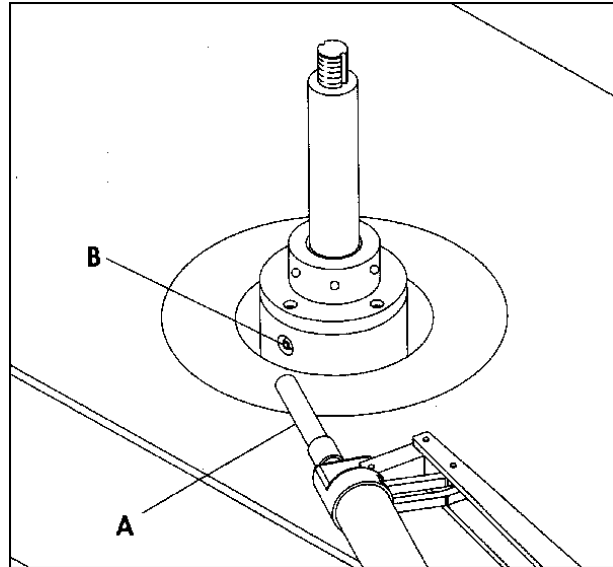

FIGURE 41
The spindle bearing should be lubricated every 200 hours of use by using the grease gun (A) supplied. See Figure 41. Two grease fittings, one of which (B) is shown, are supplied on the spindle housing for this purpose. The other grease fitting is directly opposite fitting (B). Before lubricating, clean grease fittings (B) thoroughly and then lubricate the spindle bearings with two pumps of a good quality, non-hardening grease.